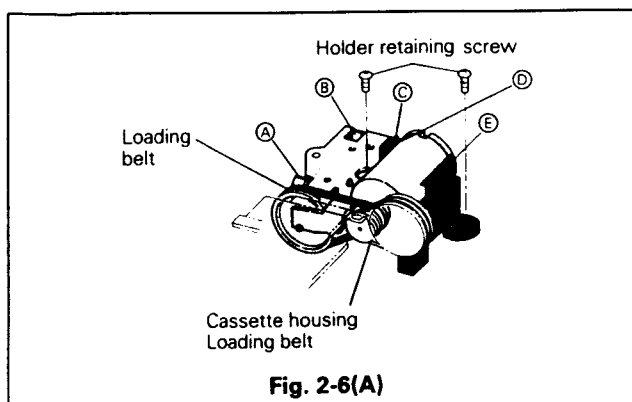

Fig. 2-6(A)
- Unlock the three supports (A), (B) and (C) shown in Fig. 2-6(A) and remove the Holder-Worm.
- Unlock the two Motor Supports (D) and (E) as shown in Fig. 2-6(A) and remove the Loading motor.